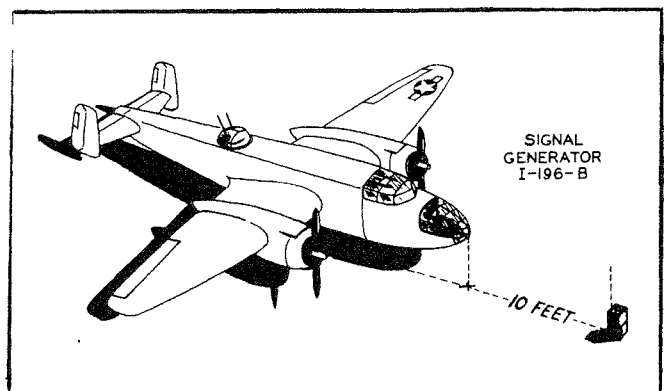

Figure 2-13. Method of Using Signal Generator I-196-B for Receiver Alignment
(2) Set the signal generator directly in front of the plane, about 10 feet from the nose, *with the side bearing the nameplate facing the airplane*. If the signal-generator batteries are weak, or if the oscillator is considerably detuned, it may be necessary at first to place the signal generator closer to the receiving antennas. (See fig. 2-13.)
(3) Place the "ON-OFF" switch on Control Box ★C-3/APN-2 in the "ON" position, the "HIGH-LOW" switch in the "HIGH" position, and the "ON-OFF" switch on Indicator BC-929-(*) in the "ON" position.